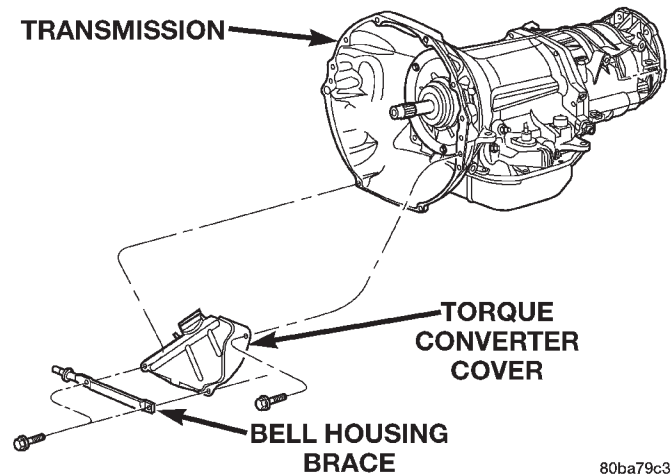

Fig. 14 Bell Housing Brace and Converter Cover
- (6) Remove the bolts holding the bell housing brace to the transmission.
- (7) Remove nut holding the bell housing brace to the engine to transmission bending brace.
- (8) Remove the bell housing brace from the transmission (Fig. 14).
(9) Remove the bolt holding the torque converter cover to the transmission.
(10) Remove the torque converter cover from the transmission.